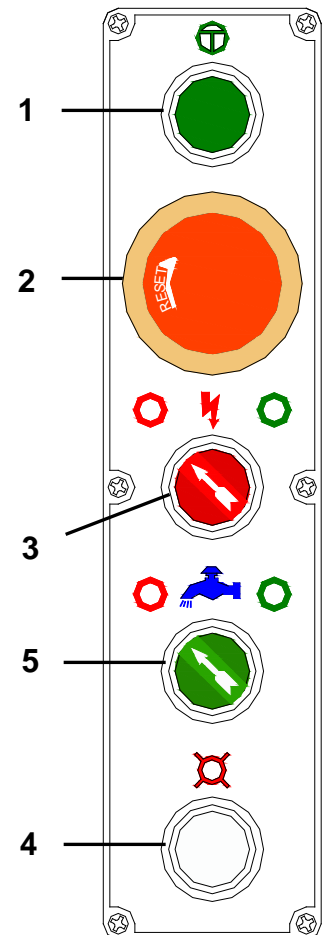

figure 28
**Note:** If any of the 3 handles offer resistance when shifting, briefly press the jog button (1) in (fig. 28) to line up the gears and allow the handle to shift.